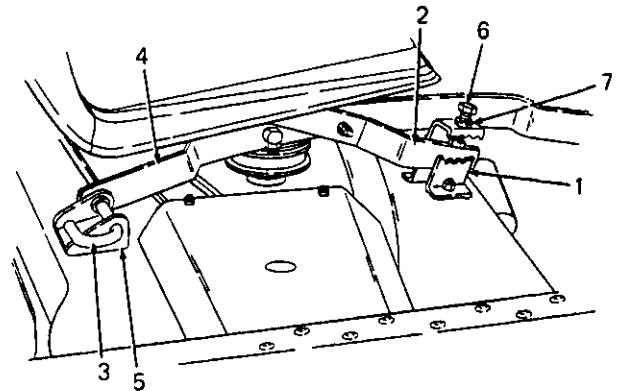

Figure 15
- Position the mower deck front deck lift brackets over each leg of the center frame. Refer to Figure 15.
- Pull and turn the support pins away from the support pin brackets. Align the support pin holes in the support brackets with the holes in the lift frame rails. Release the support pins into the lift frame rails. Refer to Figure 15.
- Lower right and left deck leveling bolts until bottom of each bolt rests on top of center frame leg. Refer to Figure 15.